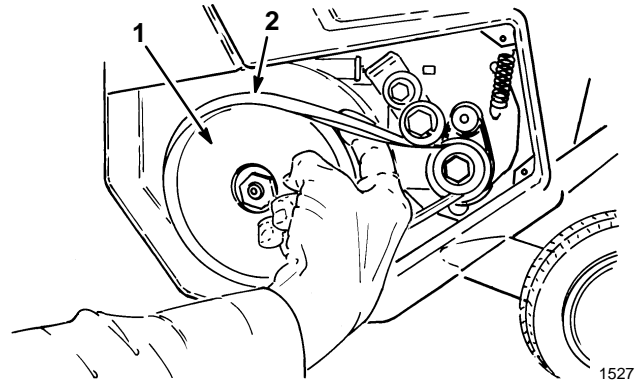

Figure 18
3. Rotate rotor with left hand while walking (sliding) belt off large pulley with right hand (Fig. 18).
2. Remove large belt by slowly walking (sliding) it off small pulley (Fig. 18). Refer to steps 2-3 in Large Belt Replacement section.